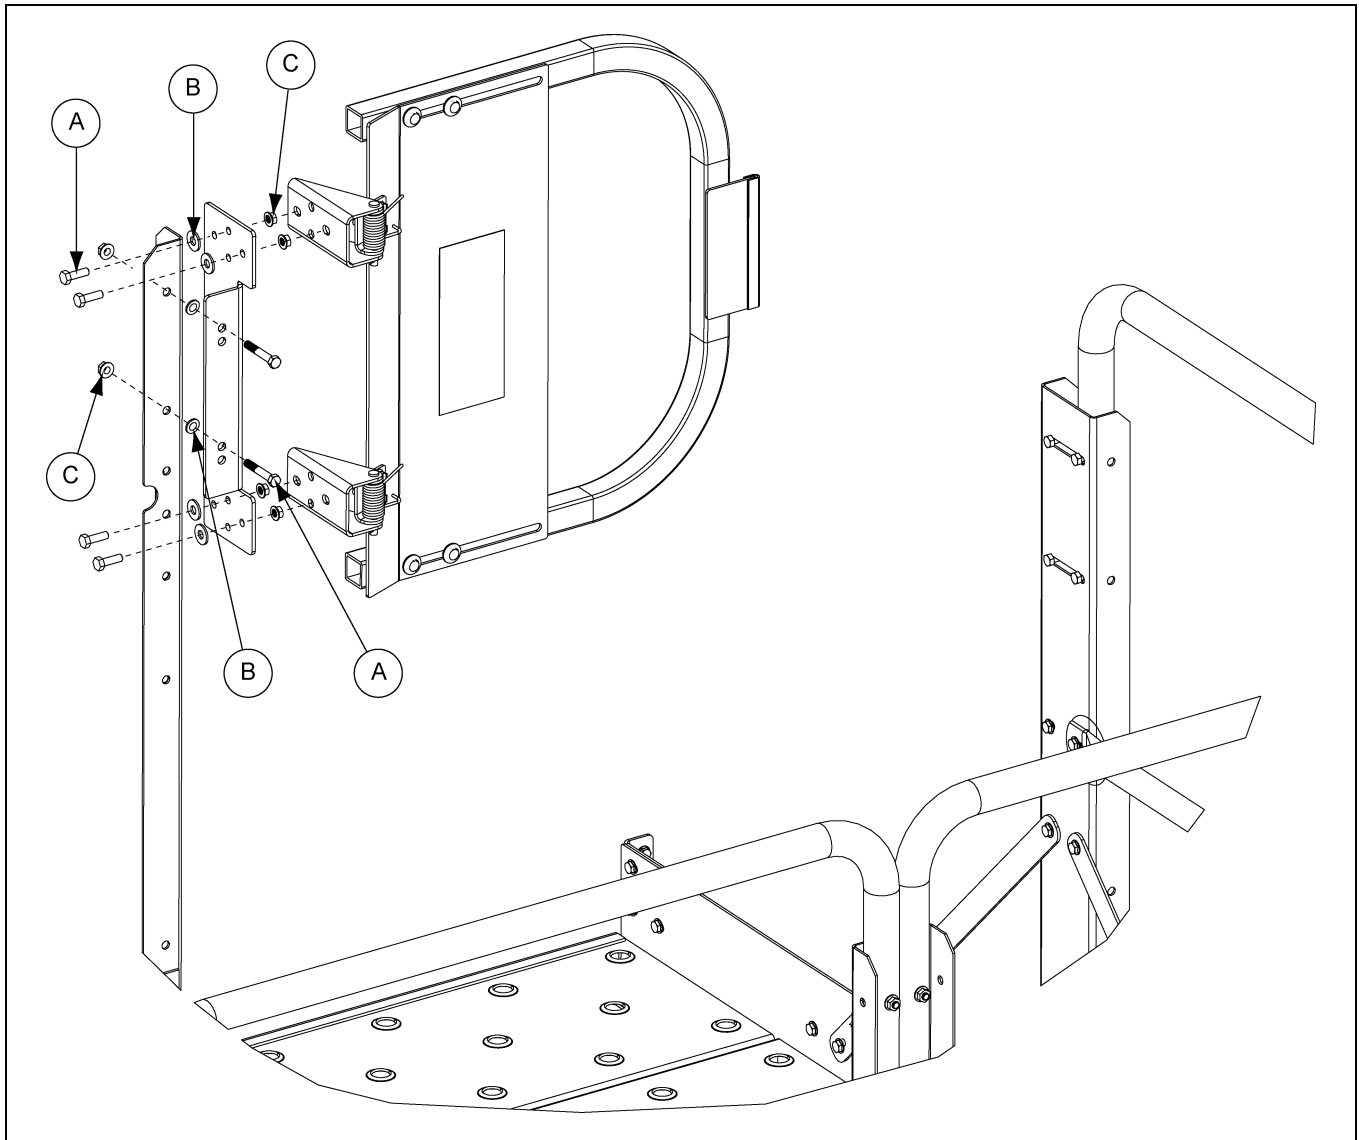

Figure 12L
Attach intermediate platform door bracket to two (2) safety gate side posts (HP1648HP) using 5/16" bolt (S-1196) (A), 5/16" flat washer (S-845) (B) and 5/16" flange nut (S-3611) (C). (See Figure 12L.)